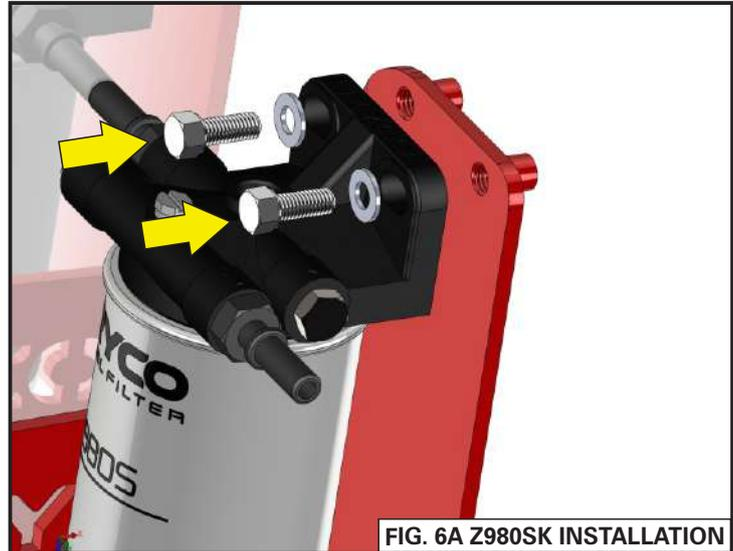

FIG. 6A Z980SK INSTALLATION
3. Using the M10 Bolts and Washers supplied in the Ryco Z980SK fuel water separator kit, attach the Z980SK to the FB9805FC bracket as shown in FIG. 6A.